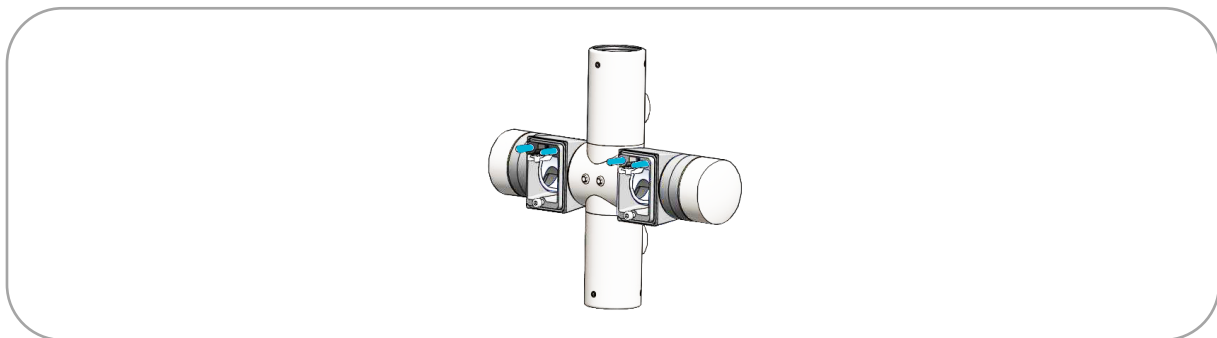

Figure 39: Crosspiece adapter
- The upper side of the crosspiece adapter is the side with the four protruding metal pins (Figure 39).